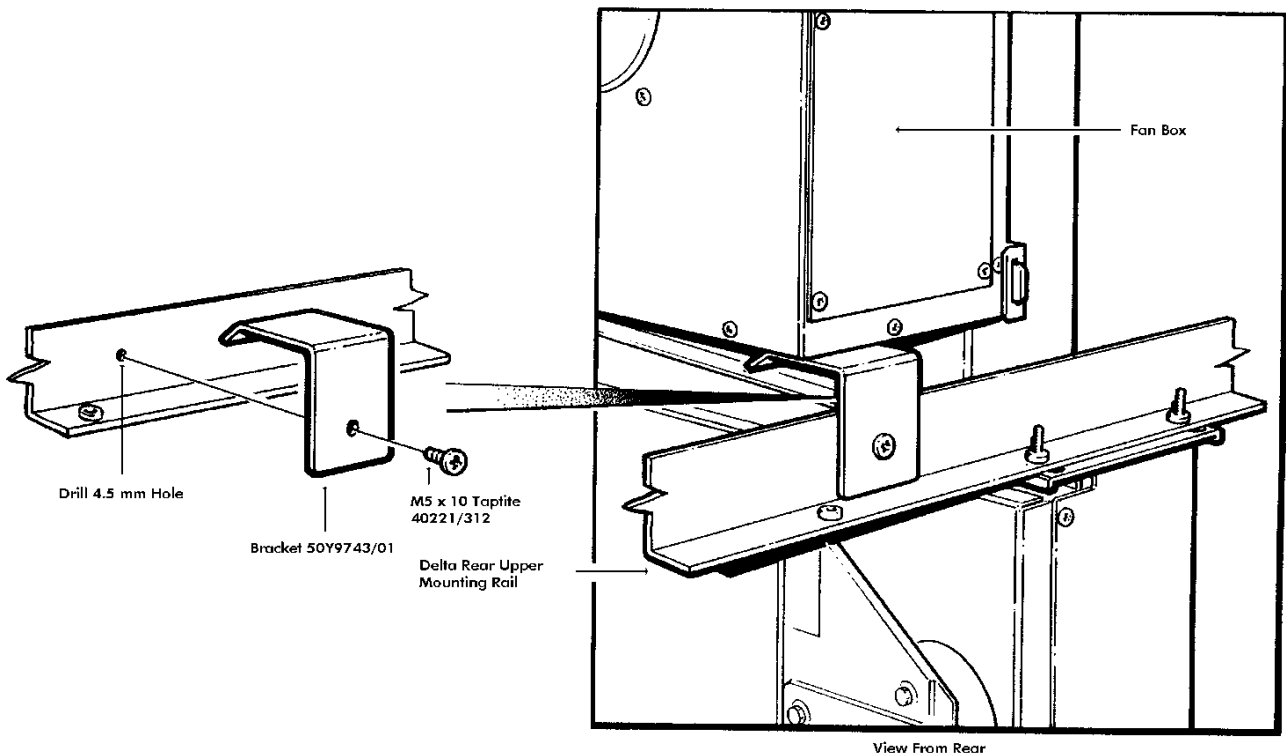

Figure 4 - Fitting of fan support bracket (50Y9743/01)
- Shown in Figure 4 - Fitting of fan support bracket (50Y9743/01).